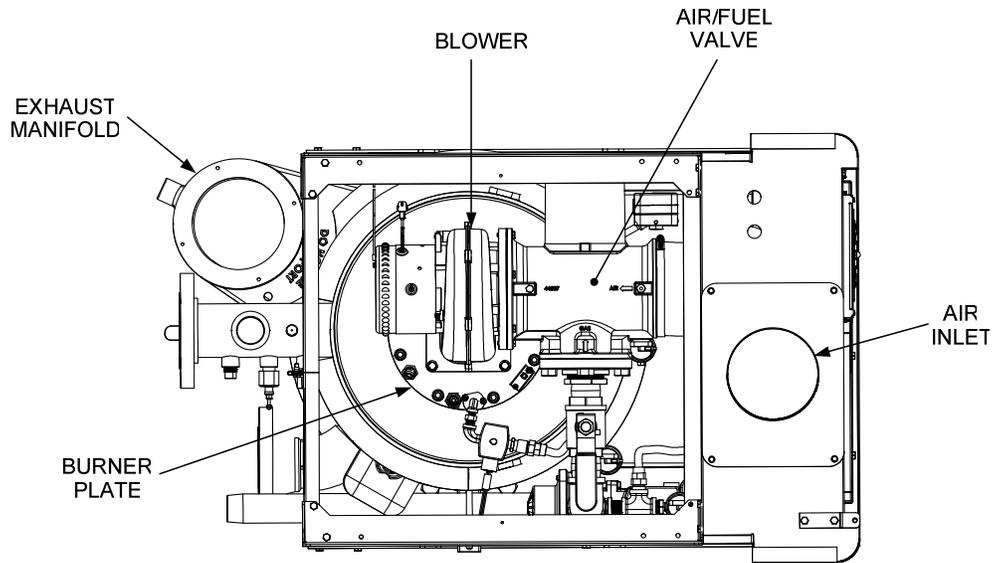
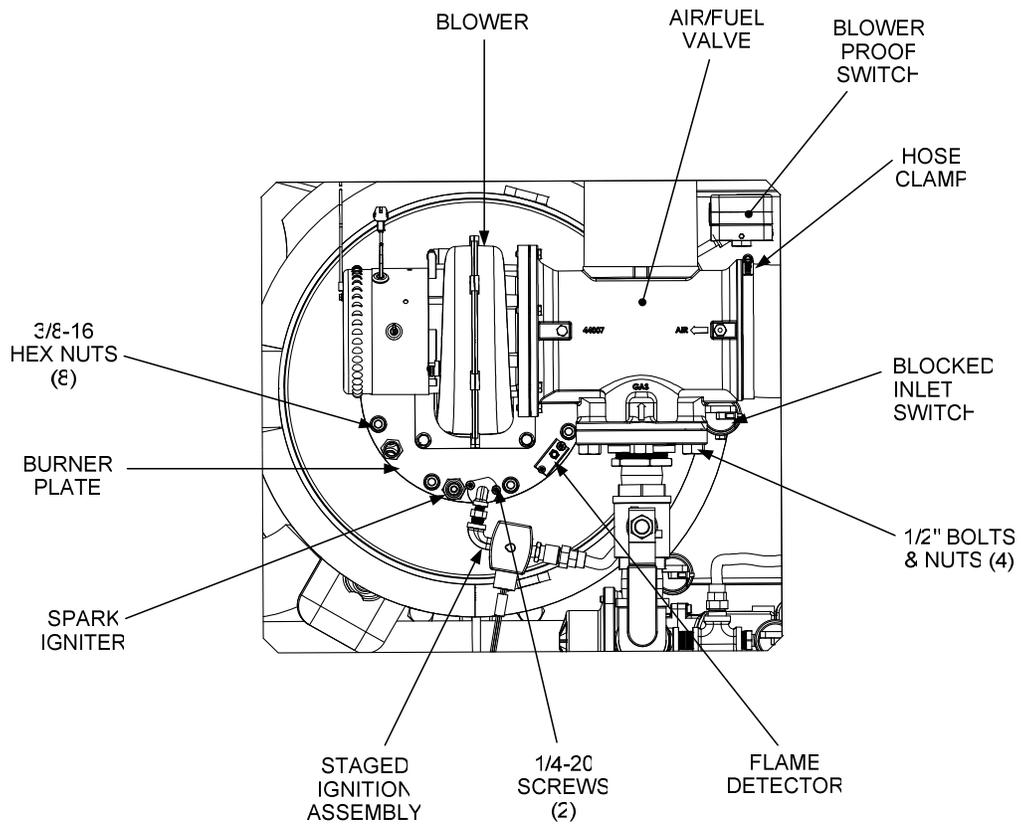
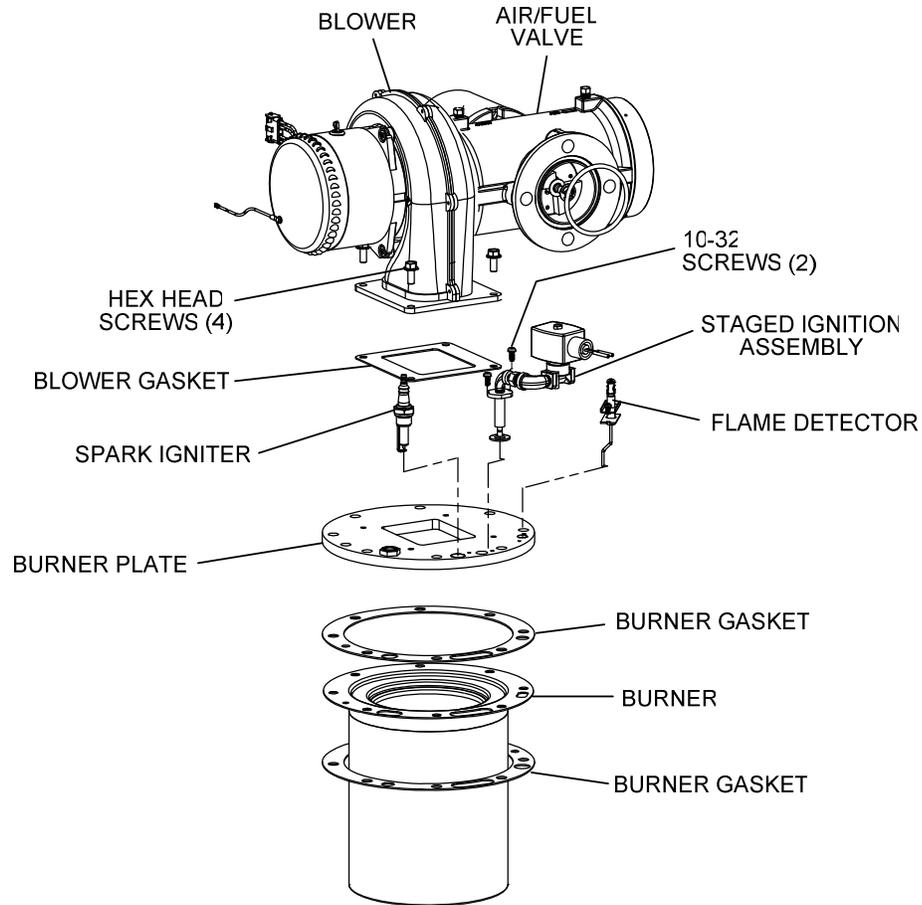

Figure 4. Benchmark 1.5LN - Top View
Figure 5. Benchmark 1.5LN Burner Assembly Removal
Figure 6. Benchmark 1.5LN Burner Assembly Exploded View
The burner assembly is located at the top of the heat exchanger as shown in Figure 4. As this illustration shows, the complete burner assembly for Benchmark 1.5LN also includes the blower and air/fuel valve assemblies for the unit. Figure 5 shows the burner assembly mounting details and Figure 6 shows the complete burner assembly removed from the unit.
2. Disconnect the lead wire from the flame detector shown in Figure 5. Unscrew and remove the flame detector.
3. Disconnect the igniter cable from the igniter (Figure 5). Unscrew and remove the igniter.
4. Remove the two (2) 10-32 screws securing the staged ignition assembly to the burner. Separate the staged ignition assembly from the burner and remove the gas injector gasket from the burner plate.
6. Disconnect the Fast-On wire leads connected to the blower proof switch and blocked inlet switch (Figure 5).
8. Disconnect the gas train from the air/fuel valve flange by removing the four (4) 1/2" bolts and nuts (Figure 5).
9. Disconnect the inlet air flex hose from the air/fuel valve by loosening the hose clamp (Figure 5).
10. Remove the four (4) 5/16-18 hex head screws securing the blower to the burner plate (Figure 6).
12. Next, remove the eight (8) 3/8-16 nuts from the burner flange using a 9/16" wrench.